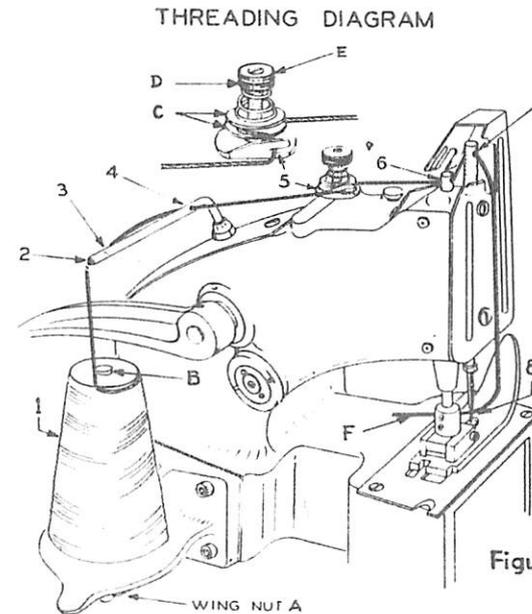
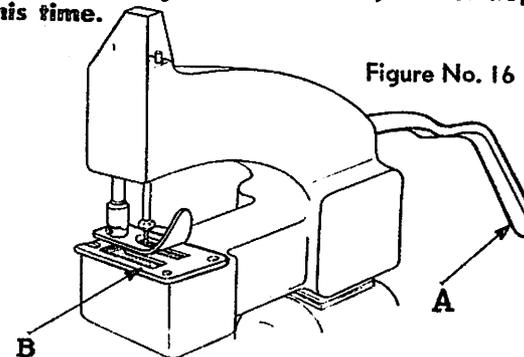
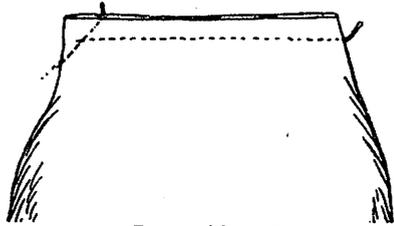
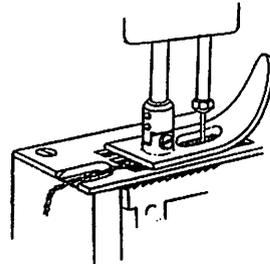

Figure No. 3
Figure No. 16
Figure No. 17
Figure No. 18
9. Proper threading and tension are important to sewing and chaining off. See Figure No. 3 for details. A chain is a series of stitches without material, like this
Tension is the degree of resistance the thread meets in passing through the tension discs "C," Figure No. 3. Nut "D" controls the amount of tension. Nut "E" is the locking nut, which is to be locked after nut "D" is properly set. Too tight a tension will cause the thread to tear or bag to pucker. Too loose a tension will leave loose loops of thread on the bag instead of nice firm stitches. In either case, the machine may not chain off. To alter the amount of tension, turn nut "D," Figure No. 3, about  $\frac{1}{8}$  of a turn at a time—up to loosen tension, or down to tighten tension—testing on material—until desired stitch appearance is obtained. **BE SURE TO RE-LOCK WITH NUT "E."**
10. A. To replace empty cone of thread, remove clamping rod "B" by unscrewing wing nut "A," Fig. No. 3. To load full cone of thread, force rod "B" through hole in top of cone and securely lock in position with wing nut "A."
- B. To complete threading operation, merely follow threading diagram, Figure No. 3, or diagram furnished with machine. **BE SURE THREAD PASSES BETWEEN THE TWO DISCS "C."** Thread needle from outside to inside of machine. Leave about  $1\frac{1}{2}$ " of thread dangling through needle.
20. **NOTE:** The following instructions are to be followed **ONLY** after rethreading machine. If machine is sewing and chaining properly, Figure No. 18, **DO NOT** depress the lever located in back of handle, see "A," Figure No. 16.
There will be no chain or stitch formation after re-threading machine. See "F," Figure No. 3. It is necessary to start the machine on the bag. Merely depress lever located in back of handle, see "A," Figure No. 16, so that presser foot will lift. See "B," Figure No. 16. Then bring machine into sewing position on bag about an inch in from side of bag, release lever "A." Proceed to sew as explained in paragraph 16. To close the open inch at the starting point, merely return to starting side of bag and sew (per instruction, Paragraph 16, Page 11) diagonally across open corner, see Figure No. 17, Page 14. Remember, do not depress lever "A" this time.
If the thread is tangled, first raise needle to high position by turning machine pulley in either direction by hand. Then, with a sharp knife, carefully cut the tangled threads away from looper, cleaning out all cuttings. Be careful not to nick or roughen looper. Next, lift presser foot by depressing lever "A," Figure No. 16, and remove machine from bag. Then re-thread and start to sew as explained in Paragraph No. 20.